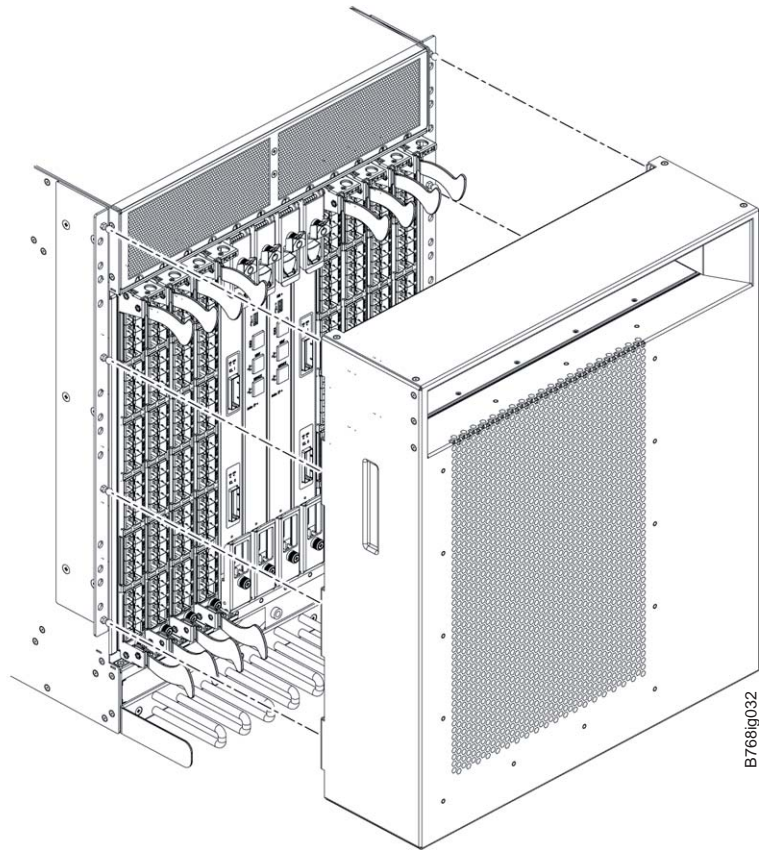
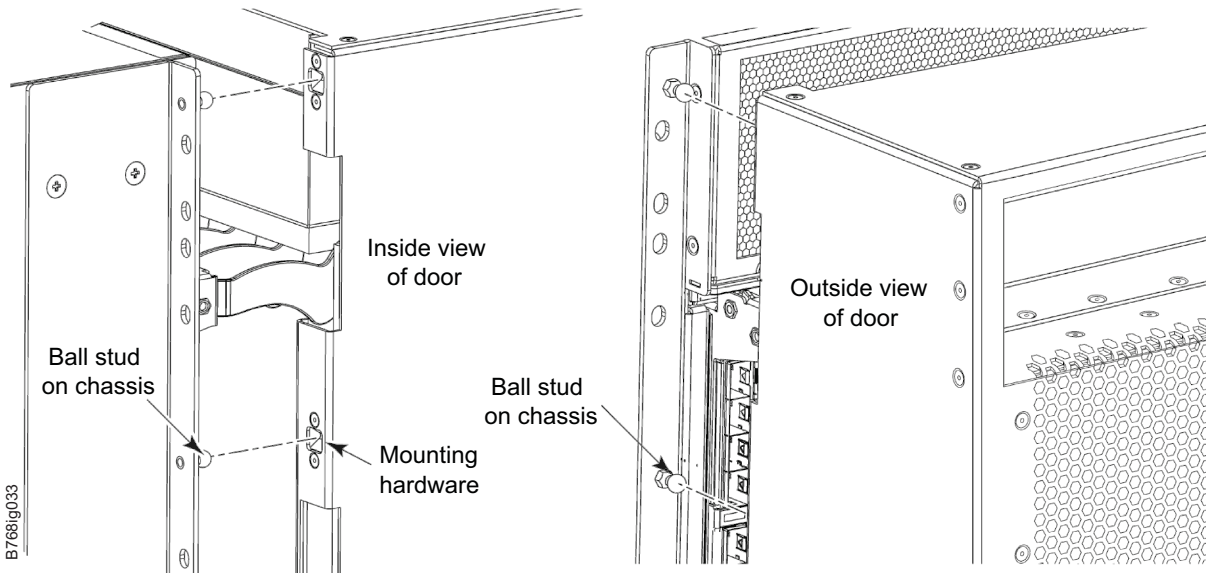

Figure 9. Aligning the chassis door with the ball studs on the chassis
Figure 10. Details of the chassis and door, showing the ball studs on the chassis and the mounting hardware on the door
21. Reinstall the chassis door. Align the door with the chassis and push it into place, as shown in Figure 9 on page 22 and Figure 10 on page 22.